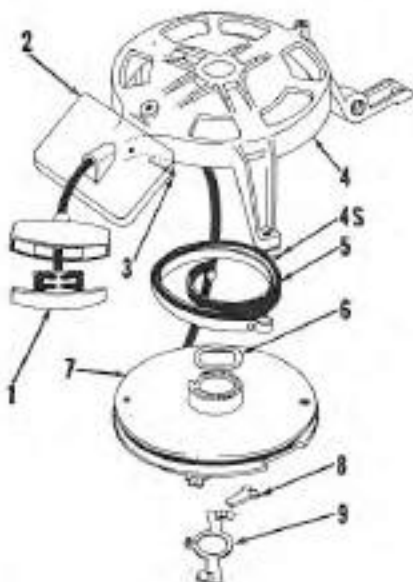
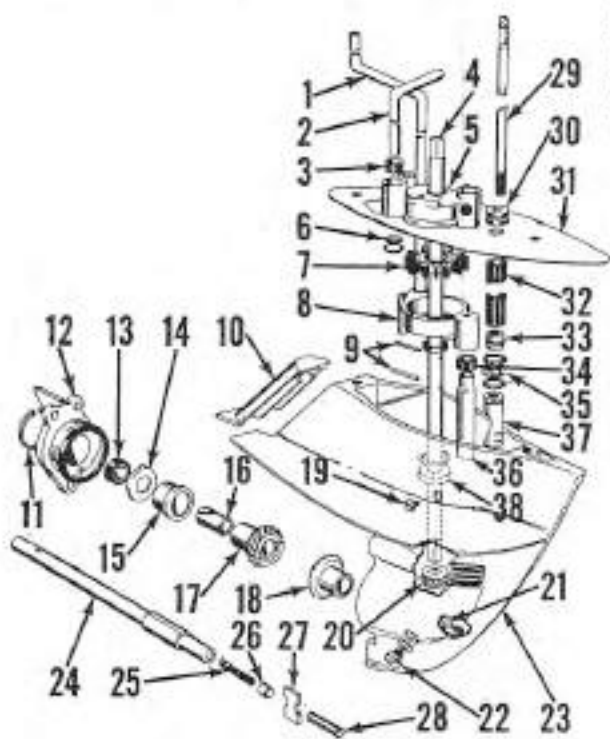

Fig. Mc67 — Exploded view of lower motor housing used on Fishing Scott models.
Fig. Mc66 — Exploded view of lower unit gearcase, water pumps and associated parts used on Fishing Scott except some 1963 models. Refer also to Fig. Mc68A.
Fishing Scott Except Models 83300750 and 83300760, Use Figs. Mc66 and Mc67 as a guide when overhauling the lower unit. To renew or service the propeller shaft, reverse gear or bearings, first drain the lubricant and remove the propeller and shear pin. Remove the cap screws retaining housing (12—Fig. Mc66) and remove the housing, propeller shaft (24), reverse gear (17), bushings and seals. A change was made during production, in the clutch dog (27). The original clutch dog was 0.500 in width (measured horizontally when clutch dog is in operating position). This dimension was increased to 0.550 to obtain a greater engaging area. The two styles are interchangeable and the new style should
To detach the gearcase housing from the lower unit, first remove the motor shroud and power head, then detach the lower swivel bracket (21—Fig. Mc67) from exhaust housing (4). Disconnect the lower shift rod (29—Fig. Mc66) from the actuator (13—Fig. Mc67). Remove the two cap screws securing the gearcase housing (23—Fig. Mc66) to the exhaust housing and withdraw the unit straight down out of exhaust housing. Cooling system and boiler pumps, and the drive shaft, pinion and forward gear can be removed and serviced. Refer to WATER PUMP paragraph for details. If shift rod or shift mechanism is removed, pay particular attention to the position of the shift rod (29) with relation to the selector cam (37). When assembling, turn the shift rod into selector cam until it bottoms, then back off until the offset upper end of rod is aligned with cam surface of selector as shown at (A—Fig. Mc68). Make sure seals (5) are in place. Lock the assembly in position by tightening the locknut (33—Fig. Mc66). Detent plunger (21) is retained in housing by selector cam (37) and will be released when cam is removed. Use care not to lose the plunger and spring, and make sure they are correctly installed when reassembling. When the lower unit is assembled, adjust the shift mechanism as outlined in the ADJUSTMENT paragraph.
cap screws retaining the bearing housing (2—Fig. Mc66) and withdraw shaft, bearing, housing and gear as a unit. Remove the bearing retainers (8) then press the shaft, bearing and gear assembly out of housing. Seal (1) can be renewed at this time. Gear (10) is retained to shaft by pin (5). Bearing (7) is positively located by the snap ring (9) and gear. Gasket (3) is available in thicknesses of 0.010 and 0.015 to provide the proper mesh for the drive gears. To adjust the backlash, shift the lever into neutral and install the propeller shaft assembly with one 0.010 shim. If the propeller shaft turns hard, increase the gasket thickness by 0.005 steps until propeller shaft turns freely with a minimum of backlash.